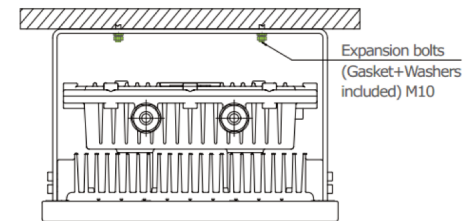

Fig. 2
- The luminaire can be adjusted facing down 90° from vertical = Lens horizontal facing down on ceiling position. (Figure 2).